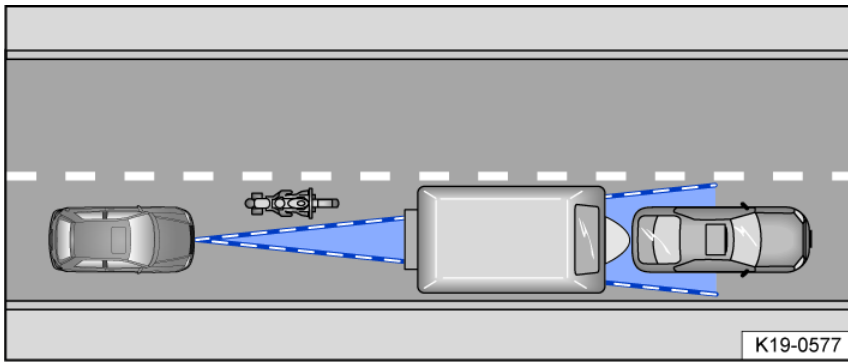

Fig. 105 Narrow vehicle.
- If there are vehicles that are driving close to your vehicle but outside the sensor range, such as motorcycles fig. 105.